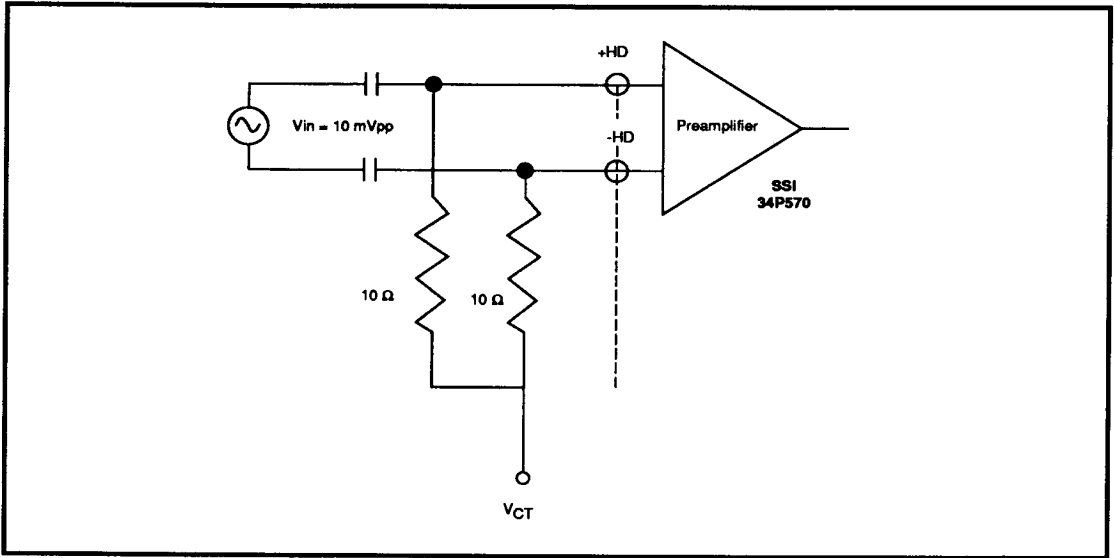

FIGURE 1: Preamplifier Characteristics
**ELECTRICAL CHARACTERISTICS** (Unless otherwise specified: VIN (Preamplifier) = 10 mVpp sine wave, dc coupled to center tap. (See Figure 1.) Summing Amplifier Load = 2 kΩ line-line, ac coupled. VIN (Postamplifier) = 0.2 Vpp sine wave, ac coupled; RG = open; Data Pulse Load = 1 kΩ to VCC; CD = 240 pF; CTD = 100 pF; RTD = 7.5 kΩ; CPW = 47 pF; RPW = 7.5 kΩ.)